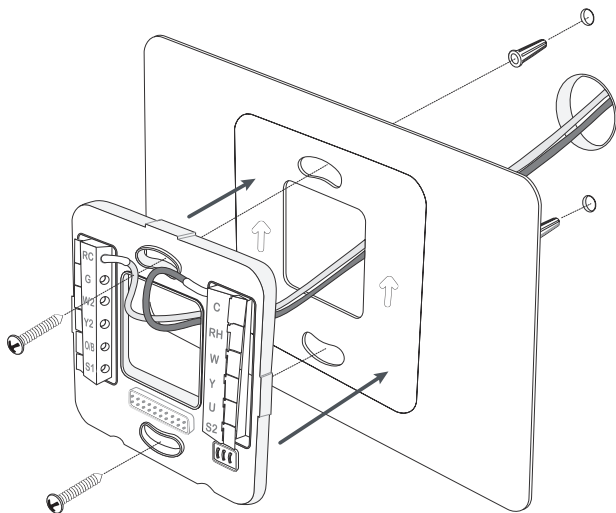

Figure 2 : Wiring connection and back plate attachment (optional trim plate shown).
If you are replacing an existing thermostat, you have the option of using the provided Wiser Air trim plate. If the hole left by the removal of the existing unit is larger than the back plate of the Wiser Air thermostat, use the optional trim plate. Run the wires and anchor the mounting screws through it while attaching the back plate to the wall (Fig. 2). Make sure to attach the trim plate with the central hole oriented upward.
10. Attach the Wiser Air back plate to the wall using the provided screws in the mounting holes in the top and bottom (Fig. 2).